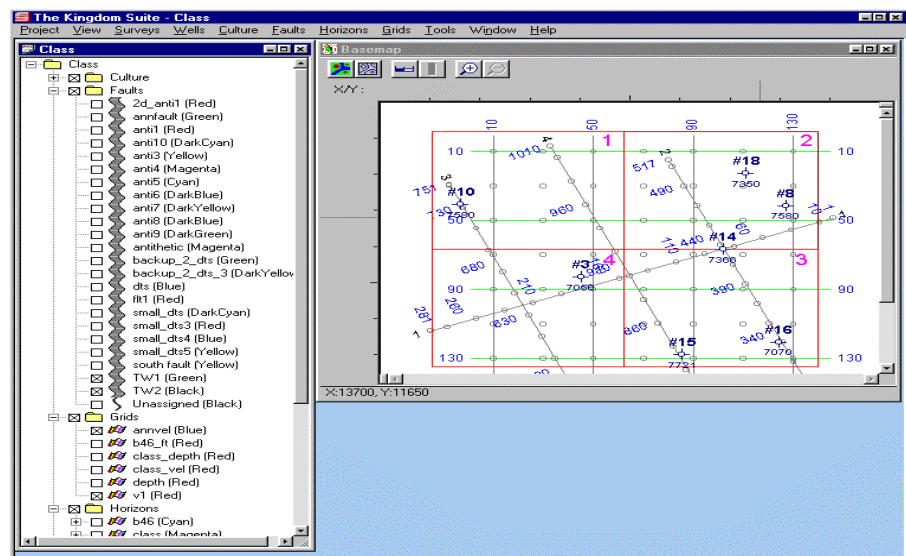
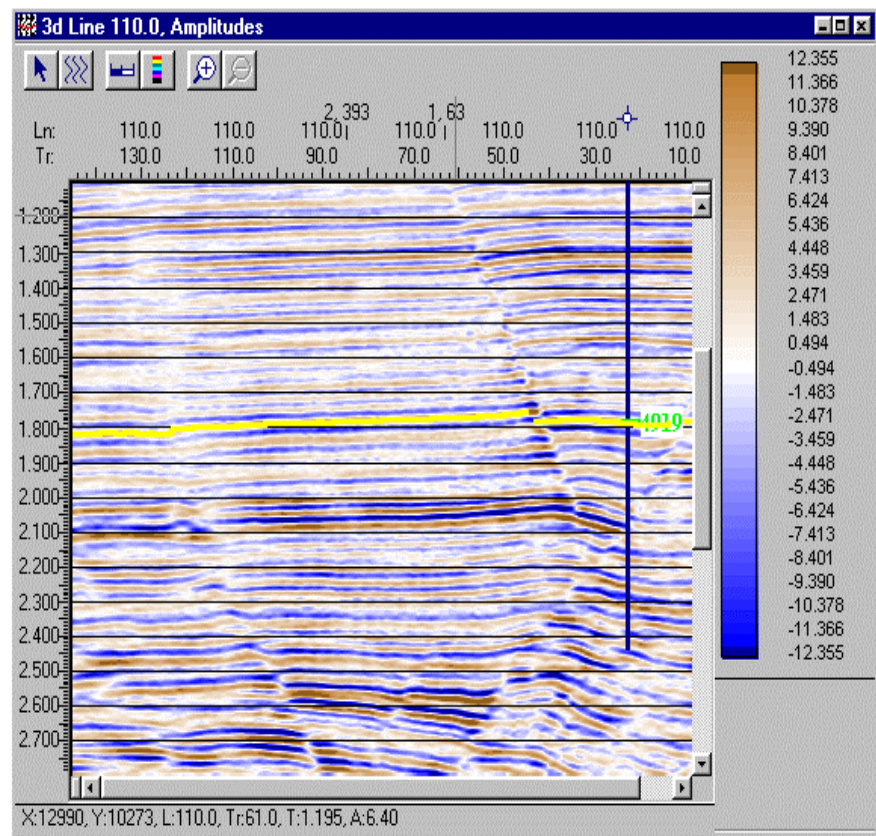

Figure 1: Basic window layout showing project tree and 3D grid basemap.
Figure 2: Display of 3D line 110.
When you open a project under Kingdom, the basic windows layout will contain a 3D basemap (right) and project tree (left) (Figure 1).
1. **Left click on the 3D grid (Figure 1) to activate it.** In this example, position the cursor on line 110. Right click and select **Display Line 110**. The seismic line will now appear as shown below in Figure 2.